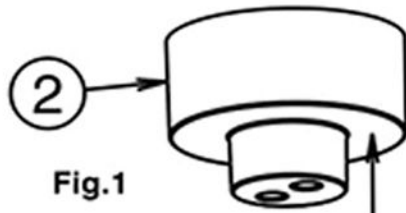

Fig.1
- 1a) Prior to pouring of the concrete slab, install the pipework for hot & cold water supplies in accordance with AS/NZS 3500.1. Slide the installation template (2) over the vertical section of each pipe (1) which will penetrate the slab and position the bottom face (see Fig.1 above) of the template at the approximate finished floor level. Crimp or cap the end of each pipe taking care that heat does not damage the installation template (2). Tag the pipe which will supply hot water for identification later in the installation.
1c) Mark the centre position of the desired location for the Mixer then drill a hole  $\text{Ø}60 \pm 2 \text{mm}$  through the flooring base materials. Install the pipework for hot & cold water supplies in accordance with AS/NZS 3500.1. Slide the installation template (2) over the vertical section of each pipe (1) protruding from the floor and position the bottom face (see Fig. 1 above) of the template on the top surface of the floor. Crimp or cap the end of each pipe taking care that heat does not damage the installation template (2). Secure the pipework under the floor using suitable brackets, clips or hangers. Care must be taken that undue strain is not applied to the vertical pipe legs which may influence the pipe centres when the installation template is removed after floor trades are complete.